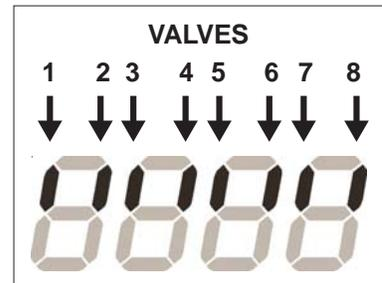

Figure 5-2. Valve indication in DATA display
2. Press **right** DATA push button to select a VALVE. Corresponding segment of **upper** row in DATA display (Figure 5-2) and corresponding VALVE LED will turn on.